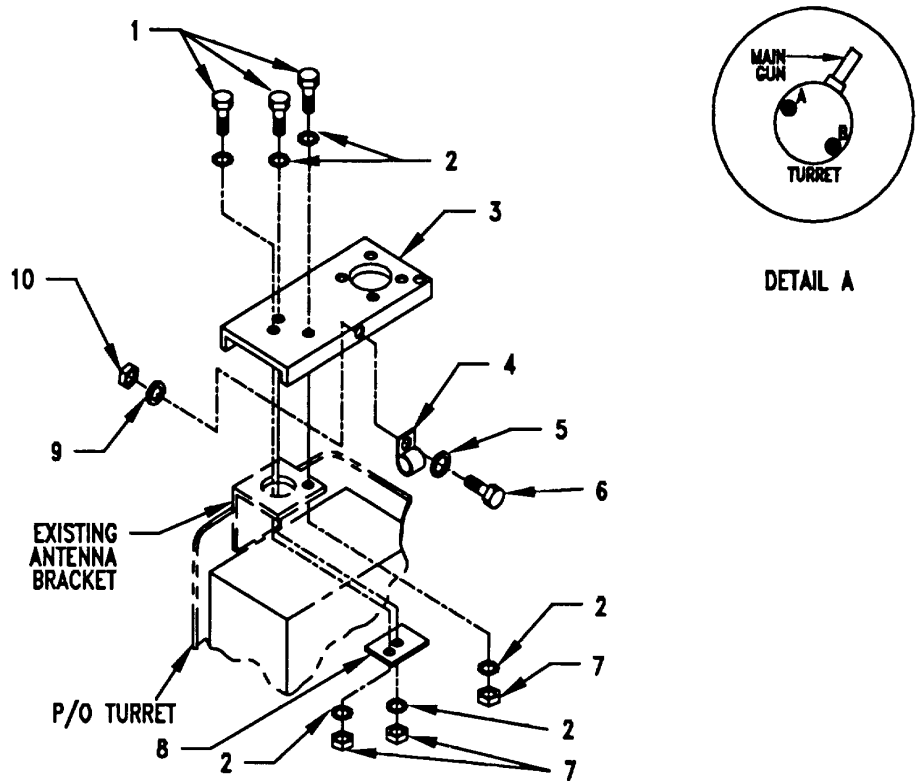

Figure 5-2(1). Antenna Mounting Bracket Installation: Location B
a. Gasket (10).	Place on mounting bracket (9) and aline over mounting holes. See Figure 5-2(2).
b. Antenna base (3).	Place on top of gasket (10) and mounting bracket (9); then aline mounting holes.
c. Four cap screws (1), eight IET washers (2) and four nuts (8).	Install and secure to antenna base (3) and mounting bracket (9).	Tools: 9/16 in openbox wrench and 9/16 in socket.
d. Ground strap (6), machine bolt (4), three IET washers (5) and nut (7)	Install and secure to mounting bracket (9).	Tools: 1/2 in open/box wrench And 1/2 in socket.